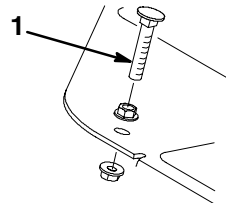

Figure 40
1. Press down on the traction pedal. If the pedal contacts the stop (Fig. 40) before tension is felt on the cable, adjustment is required:
- A. Loosen flangehead locknuts securing pedal stop to floor plate (Fig. 40).